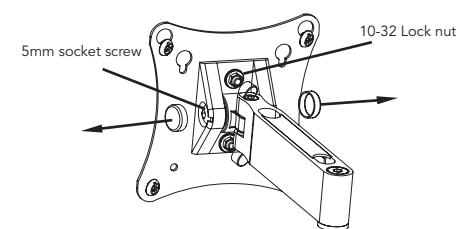
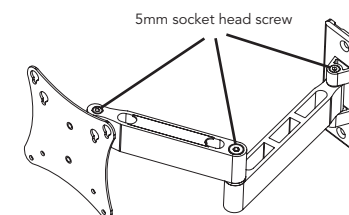

fig 5.1
fig. 5.2
Adjustment points (socket screws) are factory torqued for optimal performance. For adjustment of tilt and roll, remove snap caps as shown in fig. 5.1. To adjust tilt, tighten or loosen socket screw a few turns using 5mm Allen wrench (E). To adjust roll, tighten or loosen 10-32 lock nut, indicated in fig. 5.2.